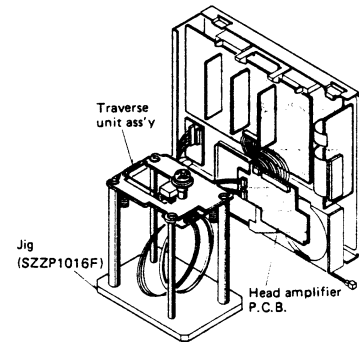

Fig. 14
7. Fix the traverse unit ass'y on the jig. (Fig. 14)